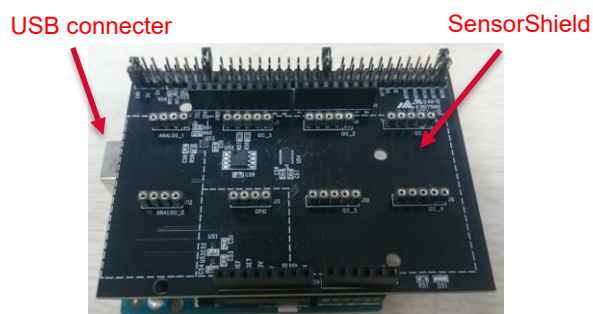

Figure 1. Connection between the Arduino and the SensorShield
1. Connect the Arduino and the SensorShield (Figure 1)